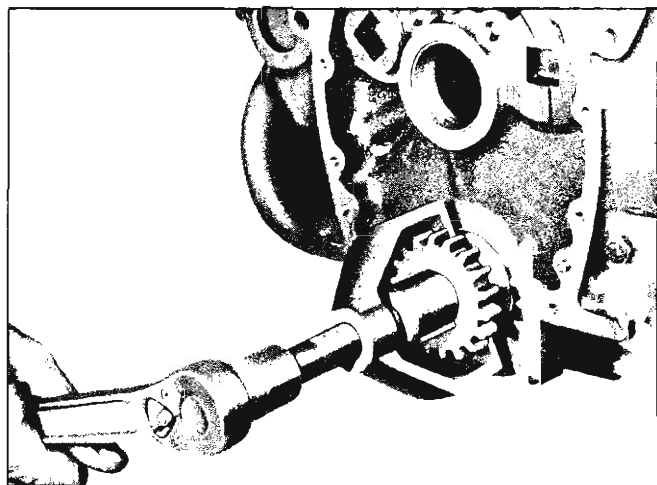
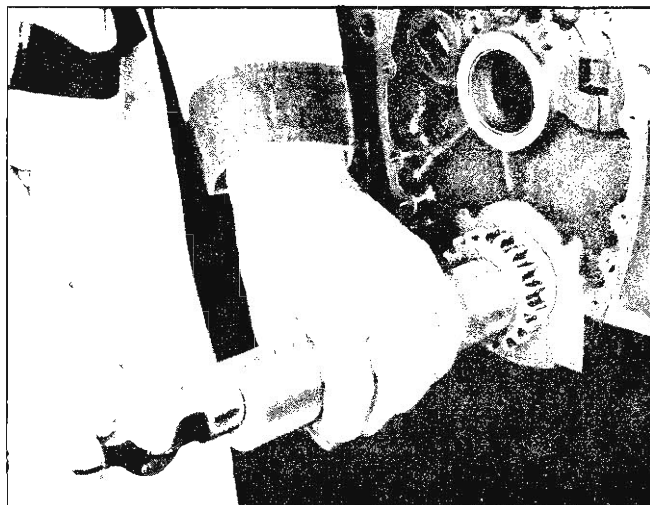

Fig. 14V—Removing Crankshaft Sprocket
Fig. 15V—Installing Crankshaft Sprocket
5. If crankshaft sprocket is to be replaced, remove it, using Tool J-5825 (fig. 14V). Install new sprocket, aligning key and keyway, using Tool J-5590 (fig. 15V).